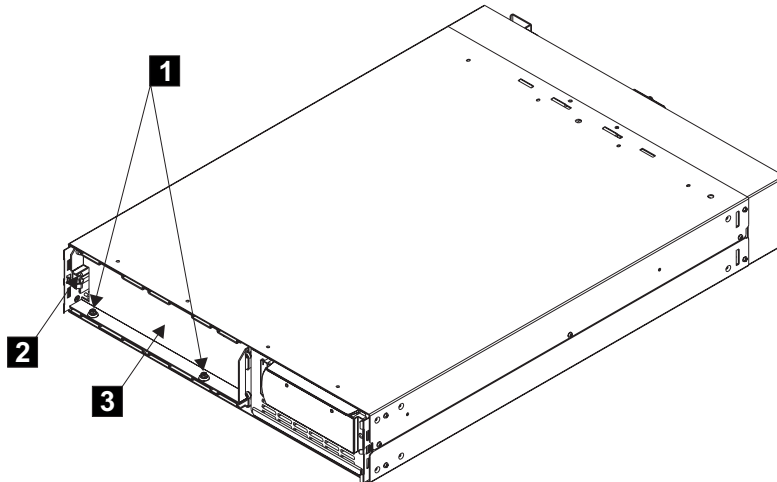

Figure 209. Remove the battery retaining bracket
- c. Remove the two bolts **1** and additional nut **2** on the left side of the bracket. See Figure 209 on page 470.